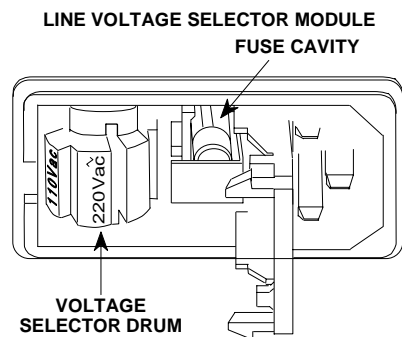

Figure 2-10. Line Voltage PC Board
Disconnect the power cord from the voltage selector module (1) and open the cover (2) to gain access to the selector drum (Figure 2-10).